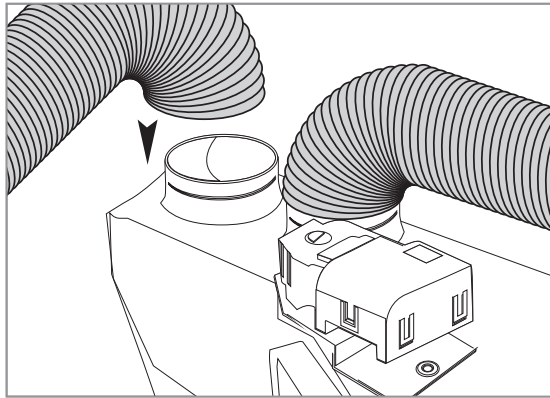
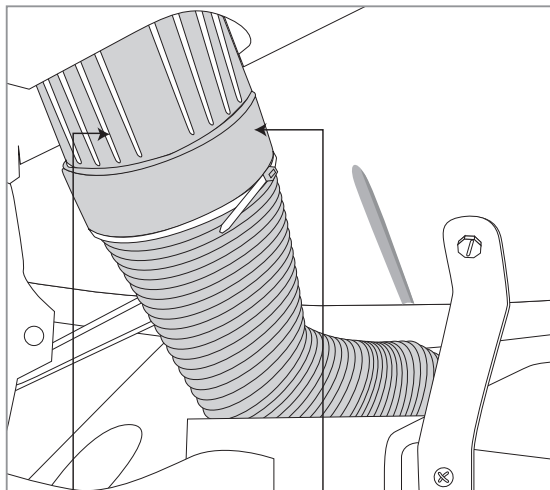

FIGURE 29
FIGURE 30
**The following steps are for left and right Defrost Diffusers:** Locate and route the duct hoses from the defrost/heat duct assembly (see figure 29) upward toward the defrost adaptor defusers. Next locate and install defrost adaptor defusers from the top of the dash and secure with v-clips supplied. Attach flex hose to the defrost defuser adaptors using zip-ties. Push adaptors onto defusers from below. The other end of the duct hose is installed over the defrost/heat duct assembly outlets on main unit (see figure 30 and the diagram below).